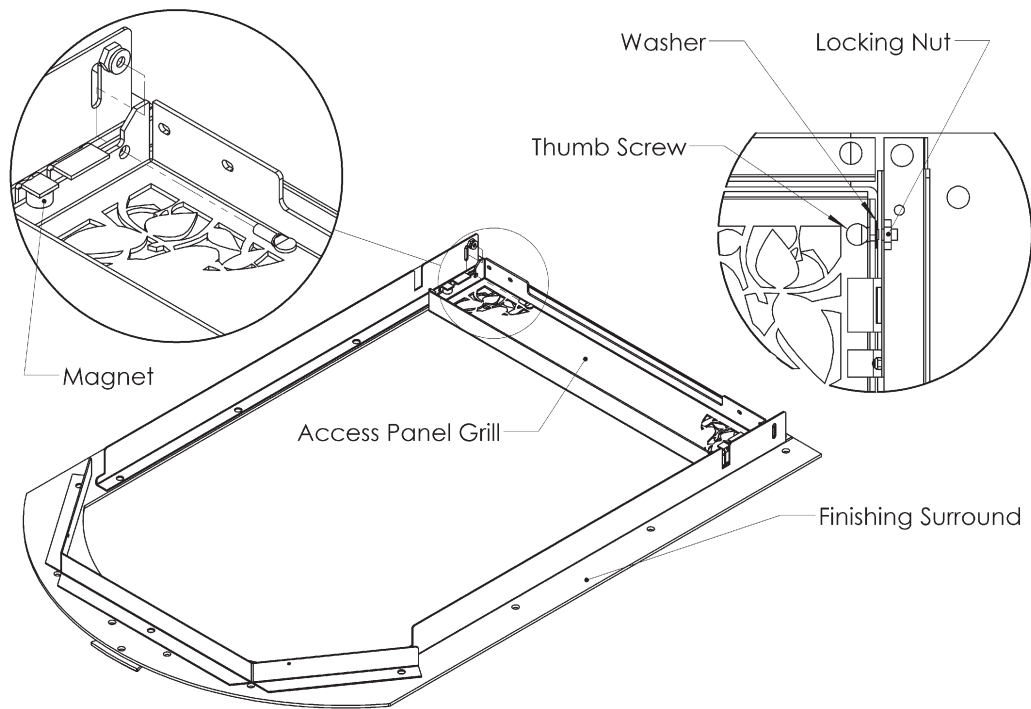

Figure 14 - Lower Access Panel installation and removal guide.
1. Lay the Finishing Surround on its face and position the Access Panel Grill in the fashion shown in Figure 14. Ensure that a soft cloth is placed underneath the Finishing Surround and the Access Panel Grill to avoid scratching.
2. Ensure that the magnets (2pcs) are placed on the appropriate tabs as shown in Figure 14.